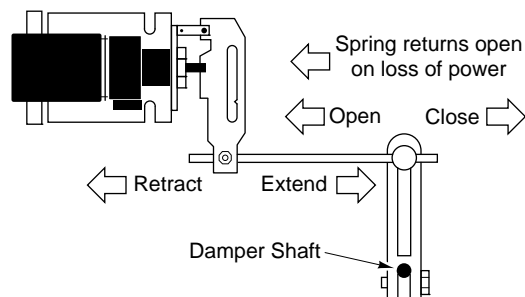
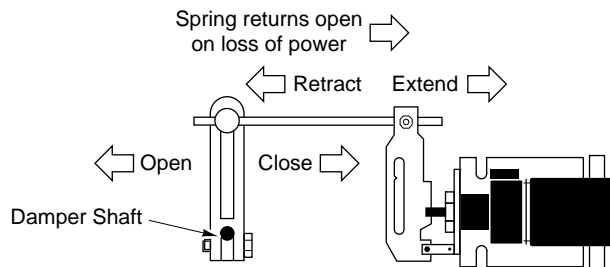

Figure-14 Dampers Open When Actuator Retracts (Spring>Returns Open on Power Loss).
Figure-15 Dampers Open When Actuator Extends (Spring>Returns Closed on Power Loss).
- a. Determine, from the system requirements, if the damper should spring-return to the open position (Figure-14 ) or closed position (Figure-15 ) whenever power is lost to the actuator. An actuator is normally linked so as to retract (spring-return) to the damper's fully open position (heat position).